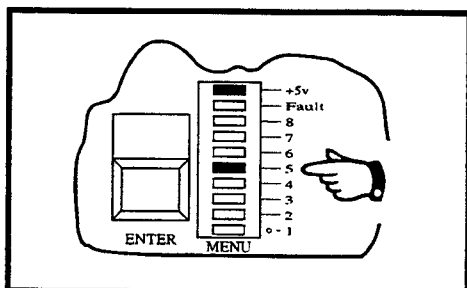

Figure 3-2
- (f) Press the blue **FUNCTION** key a number of times until the segment labelled **5** is illuminated. This segment identifies the 4mA calibration menu option. See Figure 3-2 .